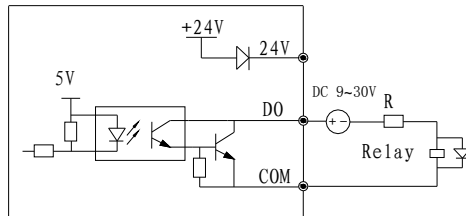

Fig. 2-23 On-off output connection mode 2 of multi-function output terminals
2) Multi-function output terminals DO as discrete output can also use the external, 9~30V, power supply and the wiring method is shown in Fig. 2-23